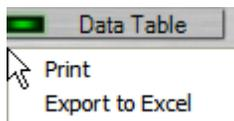

Fig. 6.49. Exporting Data Table Spreadsheets to Microsoft Excel.
2. Right-click on the spreadsheet. A shortcut menu appears (Figure 6.49).